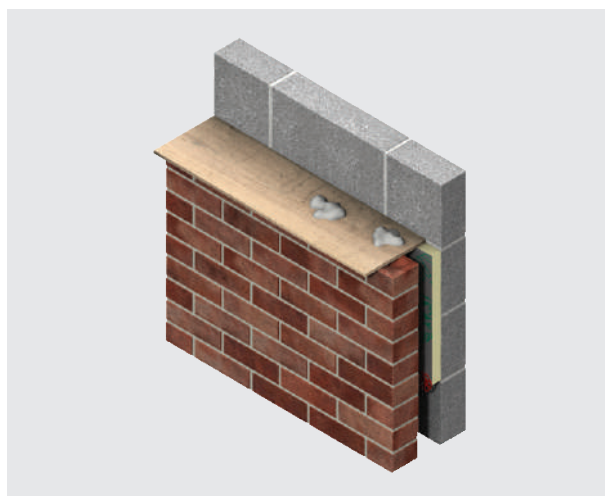

Figure 7 - Use of a cavity board to protect the cavity and insulation board top edge
- Use of a cavity batten or cavity board is recommended to protect board edges and maintain a clear cavity (see Figures 7 & 8 or refer to BBA Certificate 14/5133).